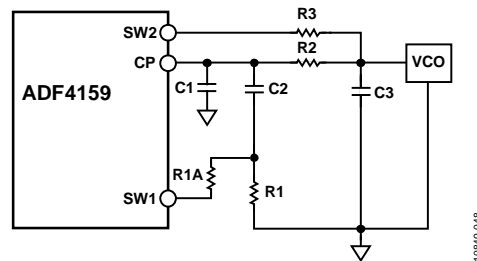

Figure 53. Fast Lock Loop Filter Topology 2
- Connect an extra resistor (R1A) directly from SW1 (see Figure 53). The extra resistor must be selected such that the parallel combination of an extra resistor and the damping resistor (R1) is reduced to 1/4 of the original value of R1.